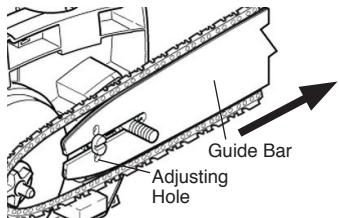

Figure 6 - Pulling Guide Bar
8. Pull the guide bar away from the saw body so that the guide bar is fully extended and the slack is removed from the chain. (See Figure 6)
11. Slowly slide guide bar into saw body until the adjustment block goes into the round adjusting hole on the guide bar. (See Figure 6) *NOTE:* This locks the guide bar in place. You should not be able to push or pull the guide bar.